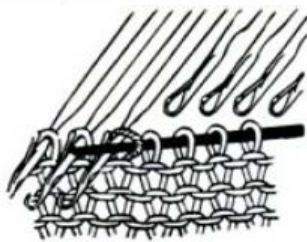

Fig. 76
- a. Transfer the knitting to a hand knitting needle. (See Fig. 76)